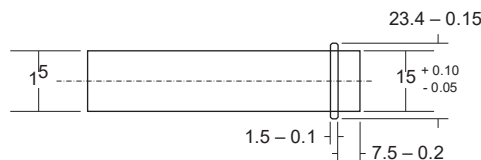

Fig. 11. Pipe end for "O"-ring connection
- Pipe end construction: see fig.: 11.